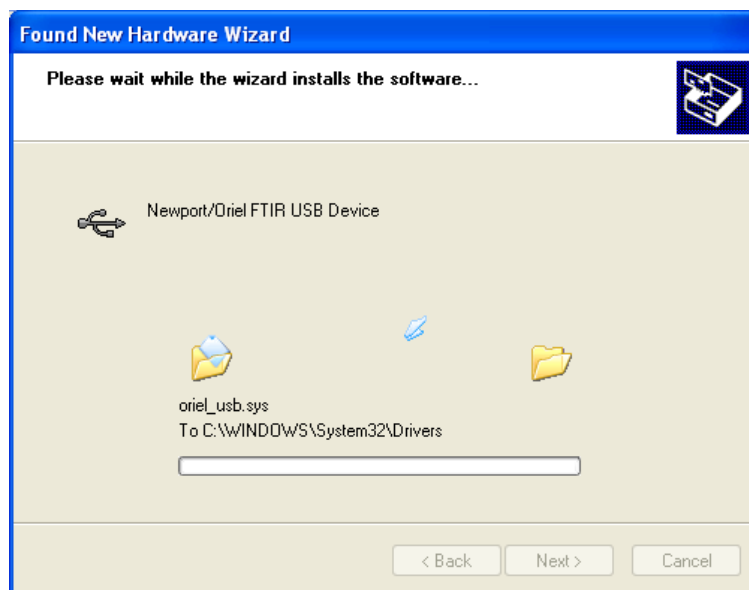

Figure 31: Installing Instrument Driver
7. Installation of the FT-IR instrument driver will now begin. Refer to Figure 31.